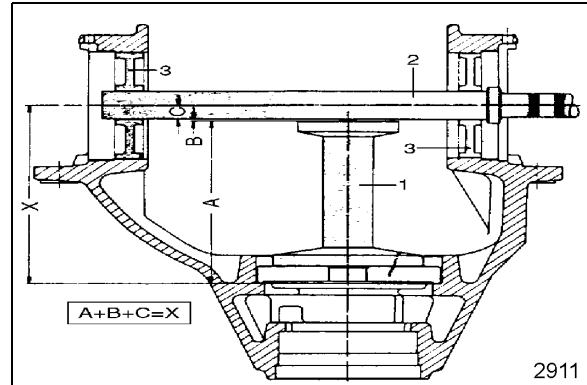

Figure 219
7. Note installation position (Figure 219) and install baffle plate firmly against shoulder.